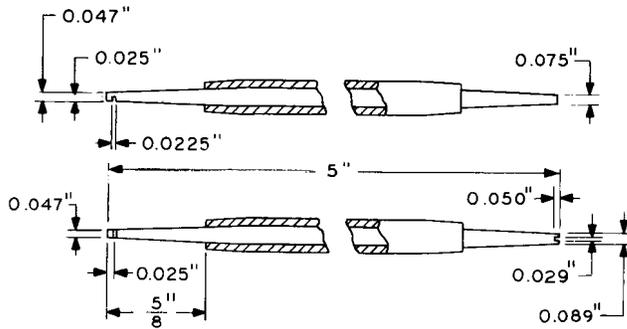

Fig. 7—638B Adjuster Tool
**2.08 638B:** The 638B tool (Fig. 7) is a contact aligning tool which forms a part of the 1013A tool kit. It is used in adjusting the replacement stationary contacts and twin contacts of the 286-, 287-, and 288-type relays.